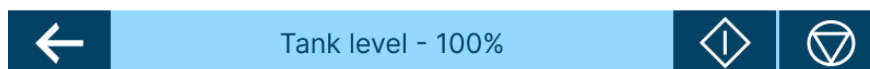

Figure 39: Filling instructions on screen with live tank level indication
- The “Motor Fail” error is shown in Figure 39 and indicates a pump failure.